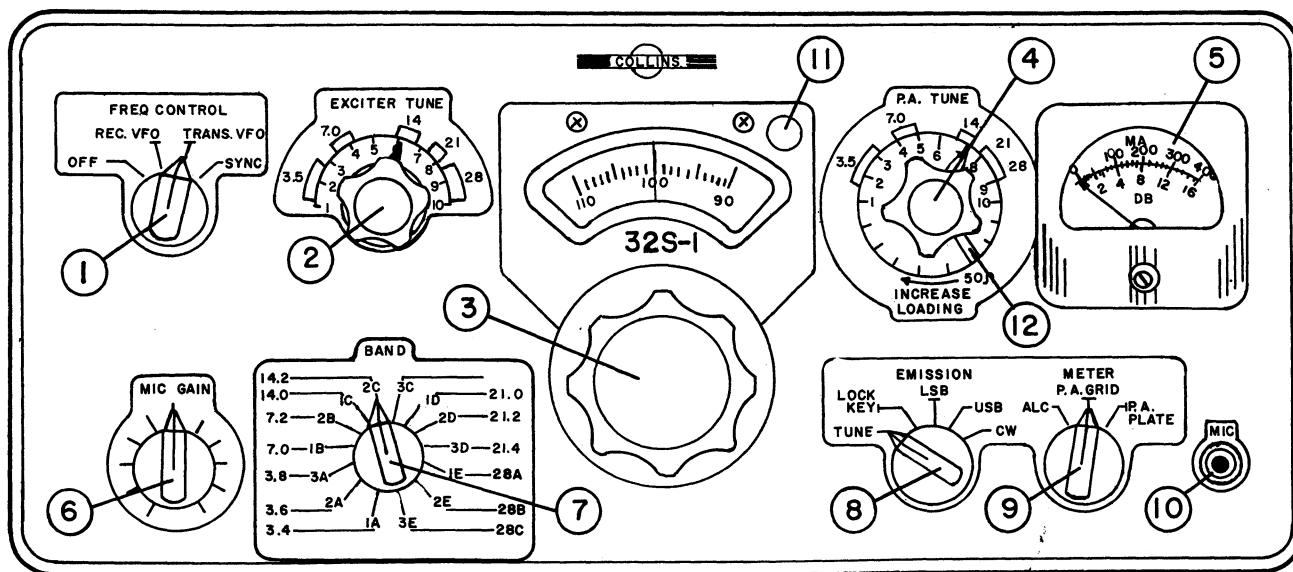

Figure 2-1. Panel Controls
- Set controls as shown in figure 2-1.
- Set EXCITER TUNING (2) and P. A. TUNING (4) to desired band.
- Set tuning dial (3) to desired frequency within band. For example, if BAND switch (7) is set to 14.0, and desired frequency is 14.195 mc, set dial to 195. To
k. If the transmitter is connected with a 75S-1 Receiver, as shown in figure 2-1, and it is desired to zero beat the transmitter to a frequency tuned on the receiver, proceed as in paragraph 2.1, step k.